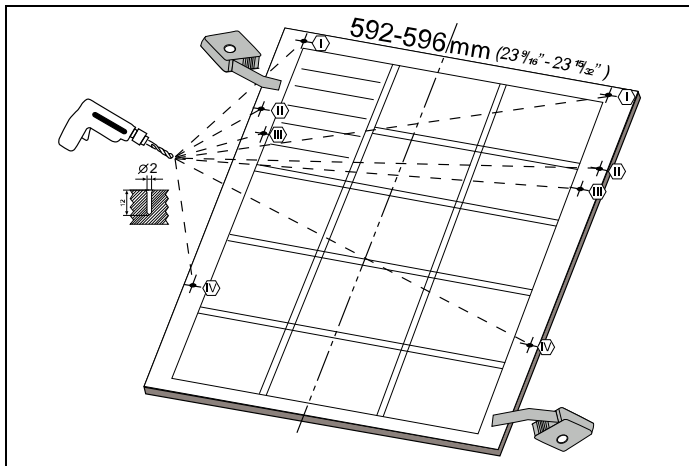

Fig. 24
As shown in Fig. 24, you must measure the height and depth of the cabinetry to determine the dimensions of the outer door.
- 2) As shown in Fig. 24, the screw hole is opened to the outer door from the points marked on the installation plan. Diameter of Drill Bit: 5/64" (2 mm) Depth of Drill Bit: 15/32" (12 mm)